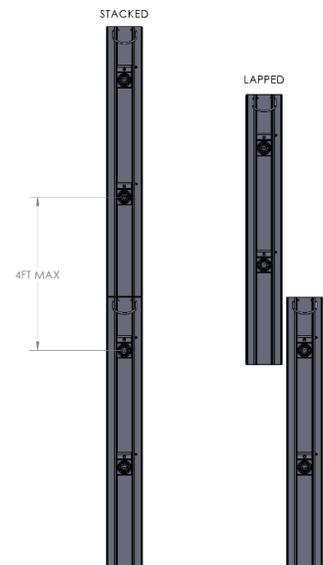

Figure 2: Stacked and Lapped Configurations, see Note 7.
- Vertical hydraulic shores may be stacked or longitudinally lapped, see **Figure 2**, provided shore spacing is maintained.